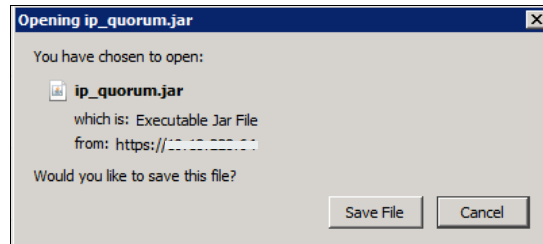

Figure 7-62 IP Quorum Java Application
2. Click **Download IPv4 Application** and the FS9100 generates an IP Quorum Java application as shown in Figure 7-62 on page 283. The application can be saved and installed in a host that is to run the IP quorum application.